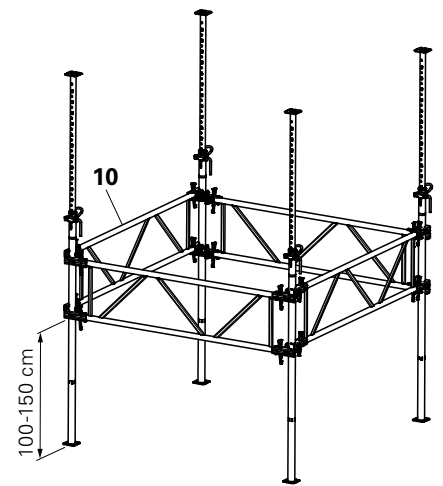

Fig. A1.06
2. Insert pre-assembled slab prop between the fastener and clamping jaws. (Fig. A1.06)
3. Close clamping jaw and push wedge downwards. Every frame has 4 fasteners each with one wedge (top and bottom as well as right and left). (Fig. A1.06 + A1.06a)
5. Hammer in all wedges (rebound impact). (Fig. A1.06 + A1.06a)